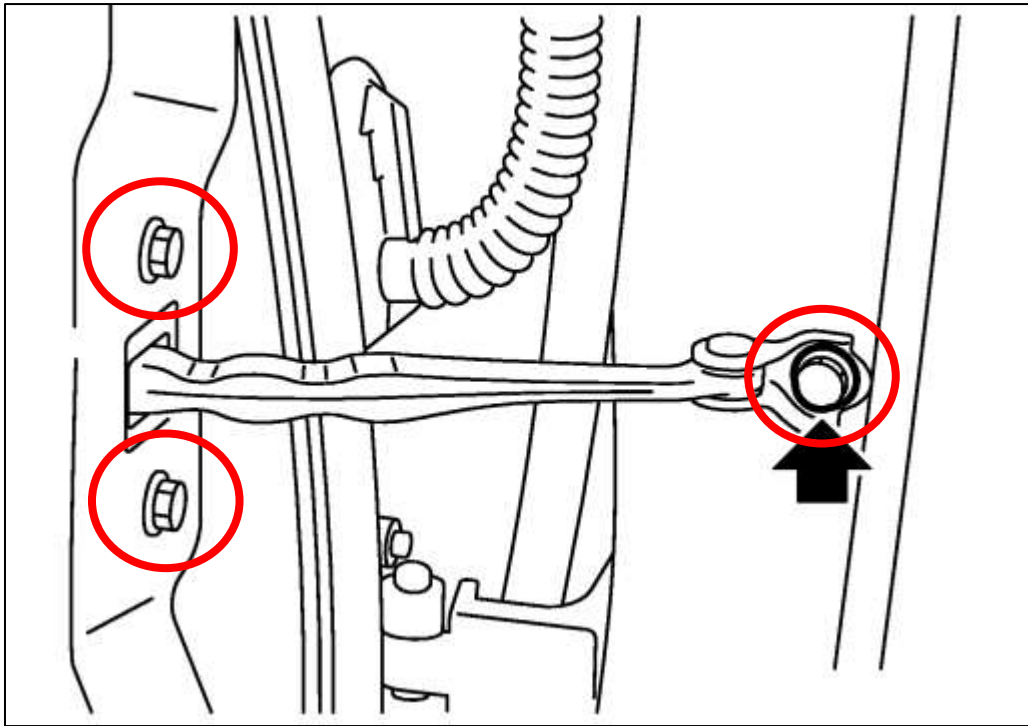

Figure 62
11. Open the door as wide as you can. Disconnect the (3) three 10mm Bolts that secure the Check Link to the vehicle. *Figure 62.*